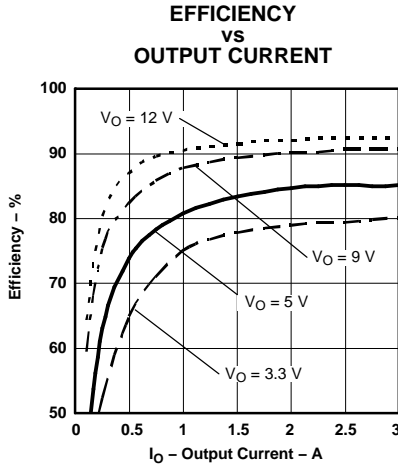
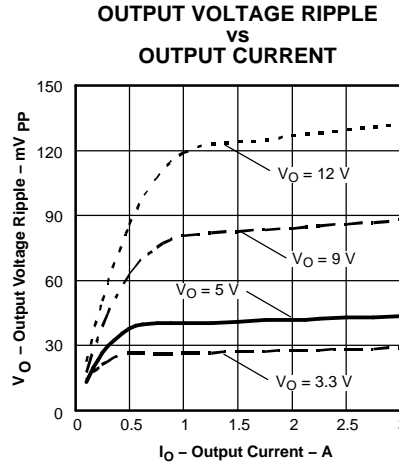
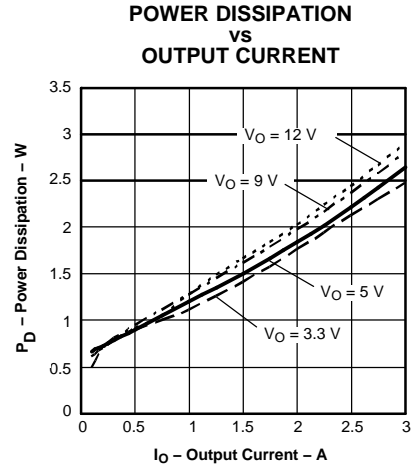

Figure 18.
Figure 19.
Figure 20.
- (7) The electrical characteristic data has been developed from actual products tested at 25°C. This data is considered typical for the converter. Applies to Figure 18, Figure 19, and Figure 20.